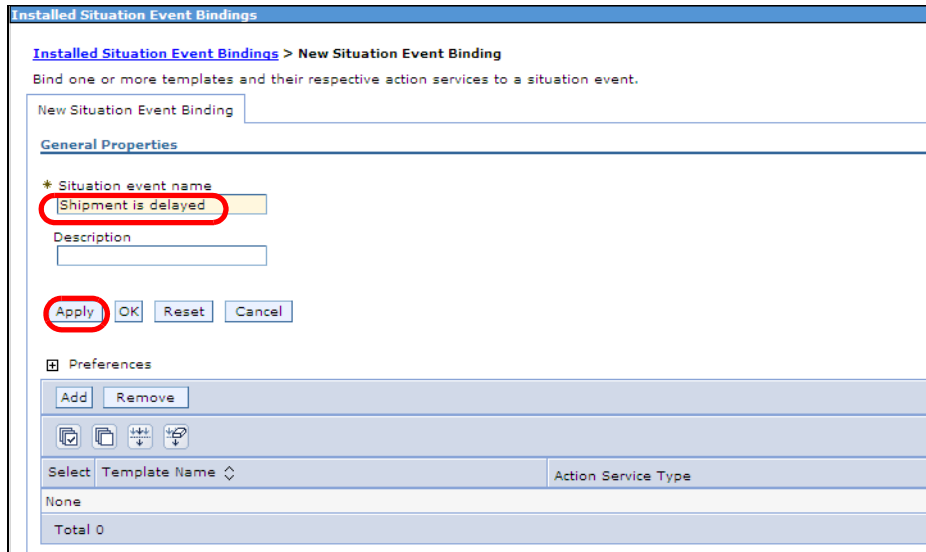

Figure 14-40 Binding between the alert and the notification
- ▶ Click *Apply* (Figure 14-40).